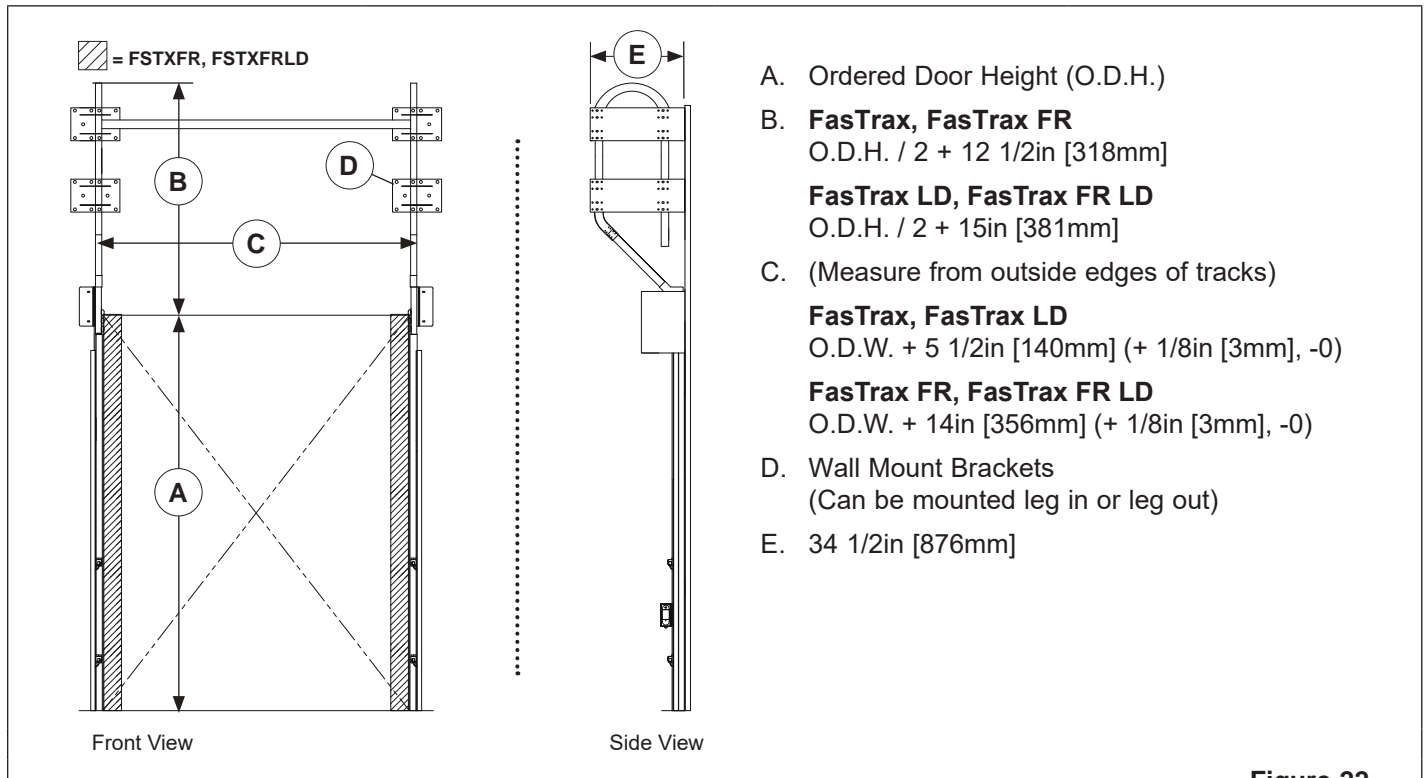

Figure 22
1. The proper radius (H) is already assembled to the lower track.
2. Locate the 2 pieces of upper track (G) (26 3/4in [680mm] or 23in [584mm] for large driver). Slide end of upper track: FasTrax/FasTrax FR: 26 3/4in [680mm] FasTrax LD/FasTrax FR LD: 23in [584mm] into the lower track splice connector. Pilot holes (.201Ø x 1 1/4in [5mm x 32mm] deep) (K) MUST be pre-drilled into lower track radius. Install 4 lag screws per location.
3. Locate the 2 45° radius pieces (F) and slide onto the first piece of upper track. Locate the 2 middle length pieces of upper track and slide into the 45° radius. Use self drill/tap screws (L) in aluminum track. Fasten 4 places in each location.
4. Plumb track in both directions and fasten to wall mount bracket (E) using self drill/tap screws (J). Attach 180° radius (B) to the upper track and fasten to the wall mount bracket. See dimension (B) of "**Figure 22**" on page 24 for top of 180° radius.
5. Locate the 2 longest remaining pieces of upper track (D.O.H. / 2) - 26in [660mm]. Slide end of upper track (A) into the 180° radius, level, plumb and fasten to wall mount bracket using self drill/tap screws.
6. Place mounting bracket (D) in position against the radius and upper track and fasten using self drill/tap screws.
7. Attach spreader bar (C) between wrap back brackets.